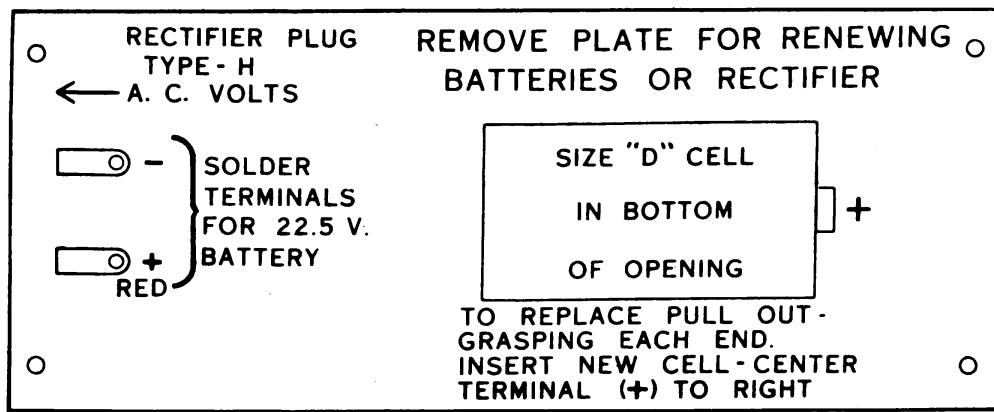

FIG. 21. MODEL 104 AND MODEL 1183-SC COMBINATION TESTER,
b. Battery Replacement. Instructions for replacing batteries are printed on the panel (fig. 21). As the batteries drop in potential because of use or age, the OHMS ADJUST. control must be turned closer to 100 for a zero adjustment. When the meter pointer cannot be brought to 0 on the upper scale of the ohmmeter with the test leads shorted together (on any one of the ohmmeter ranges), the battery serving that range should be replaced. Do not replace batteries until the battery clips have been inspected. A poor battery connection may give the same indication as a bad battery. Batteries are replaced as follows: